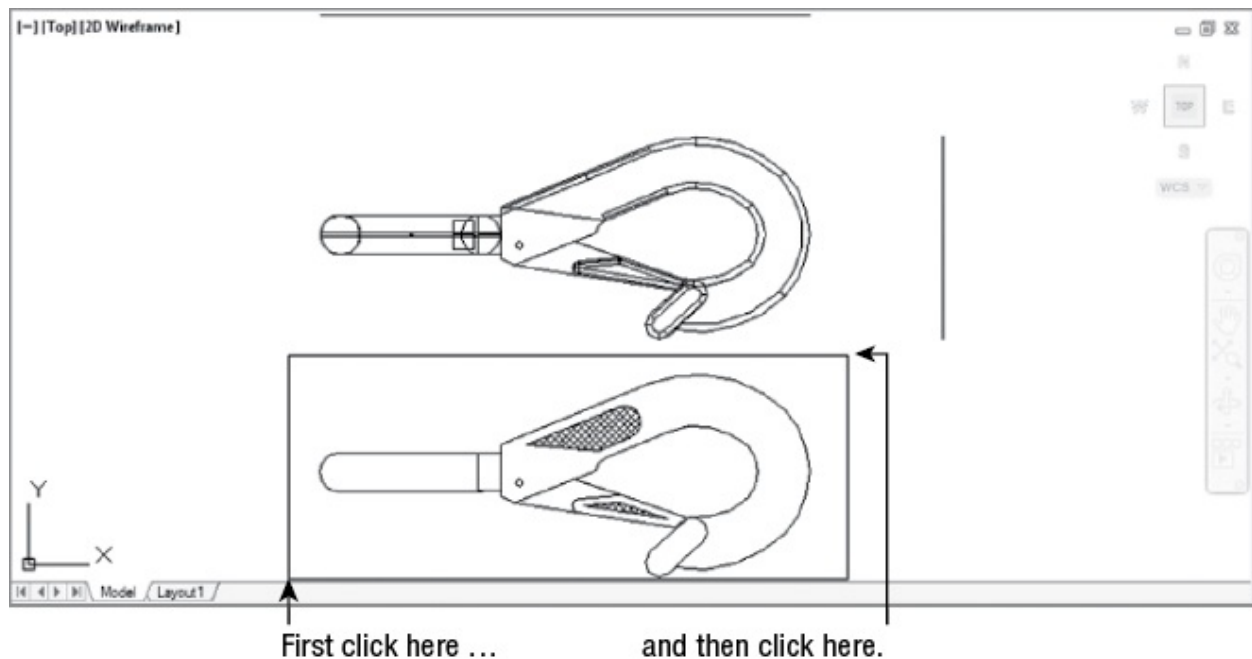

FIGURE 1.18 Placing the zoom window around the clip
3. Type **PLAN** ↵ ↵. Your display changes to a two-dimensional view looking down on the drawing, as shown in Figure 1.18.
5. The Dynamic Input display shows the Specify first corner: prompt. Look at the image in Figure 1.18. Move the crosshair cursor to a location similar to the one shown in the figure labeled "First click here," and then left-click. Move the cursor, and the rectangle appears with one corner fixed on the point you just picked; the other corner follows the cursor.
6. The Dynamic Input display now shows the Specify opposite corner: prompt. Position the other corner of the zoom window so that it encloses the lower image of the clip, as shown in Figure 1.18, and left-click the mouse again. The clip enlarges to fill the screen.